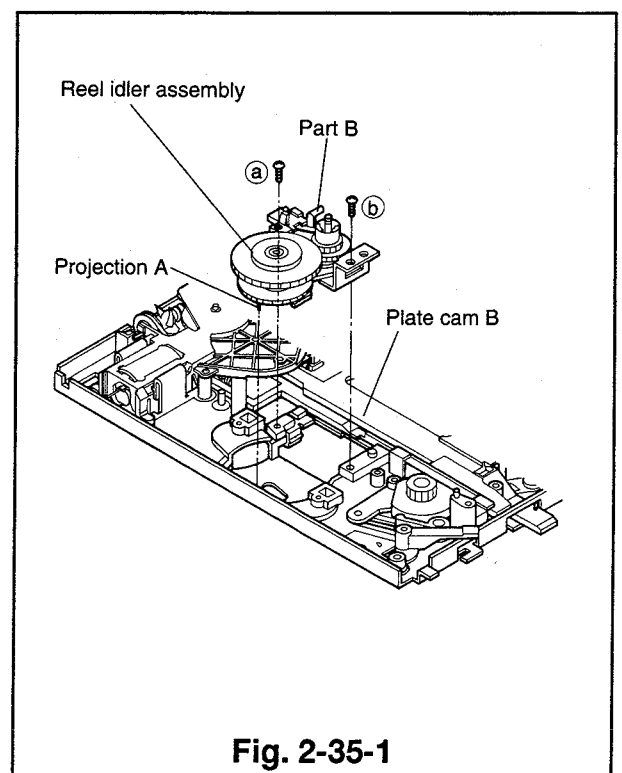

Fig. 2-35-1
- ① Insert the part B of the reel idler assembly under the plate cam B as shown in Fig. 2-35-1 and insure projection A enters the hole on the main plate. Position the reel idler assembly so that its screw holes are aligned and secure it with the two screws (a) and (b).